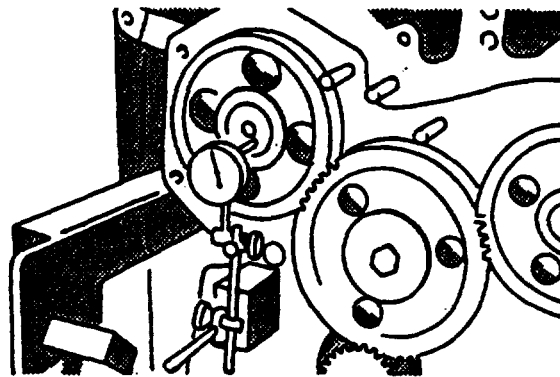

FIGURE 3-109. Measuring Camshaft End Play
- a. Use a dial indicator and measure camshaft end play, refer to FIGURE 3-109. New camshaft end play is 0.002 to 0.009 inch (0.05 to 0.23 mm). Maximum allowable end play is 0.015 inch (0.38 mm).